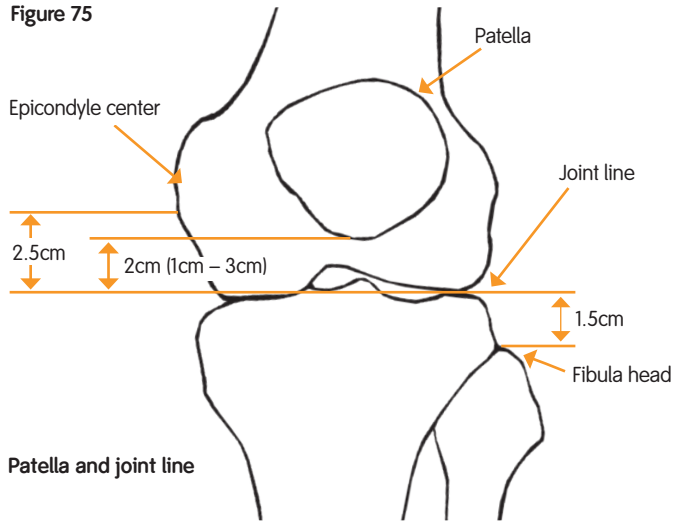
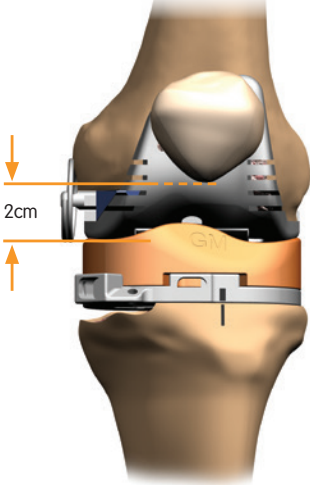

Figure 76
Figure 77
5. Perform a trial range of motion (Figure 77) to assess joint stability, joint line, patellar tracking and patella height (Figure 75). The 10mm distal wedge resection slots in Femoral Trial provide a reference of 20mm from the joint line to help assess the height of the inferior eminence of the patella (Figure 76).